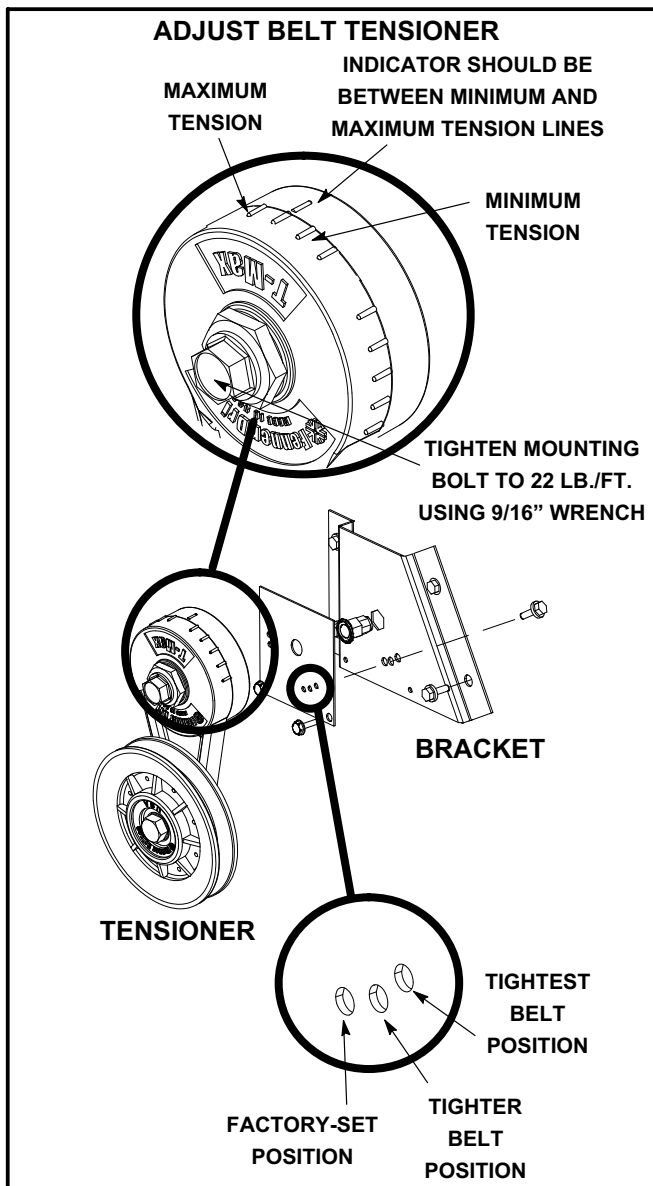

FIGURE 23
- 2- Remove bracket from blower housing. See figure 23.